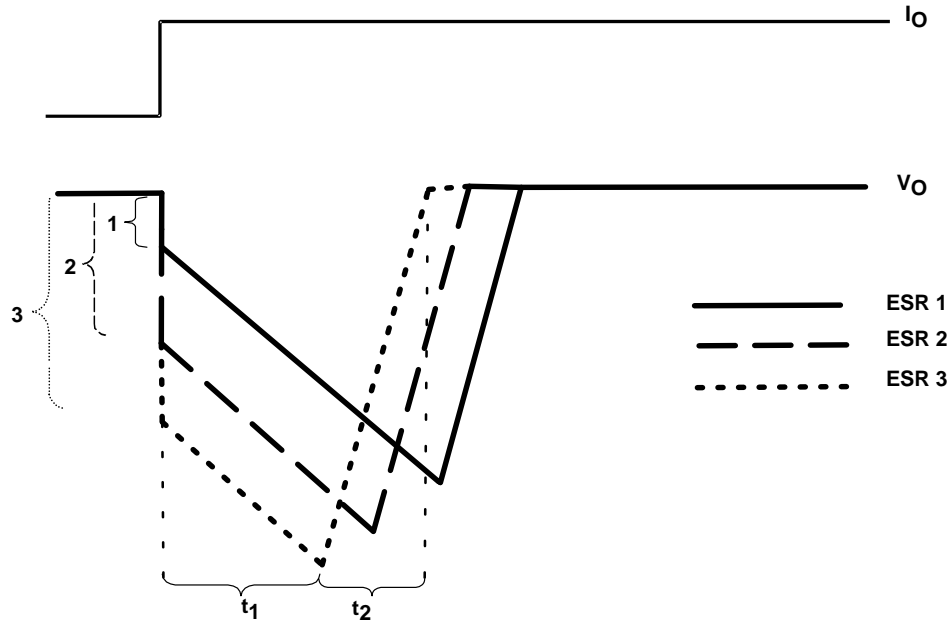

Figure 39. Correlation of Different ESRs and Their Influence to the Regulation of V_O at a Load Step From Low-to-High Output Current
- When C_O is conducting current to the load, initial voltage at the load will be $V_O = V(C_O) - V_{ESR}$. Due to the discharge of C_O , the output voltage V_O will drop continuously until the response time t_1 of the LDO is reached and the LDO will resume supplying the load. From this point, the output voltage starts rising again until it reaches the regulated voltage. This period is shown as t_2 in Figure 39.